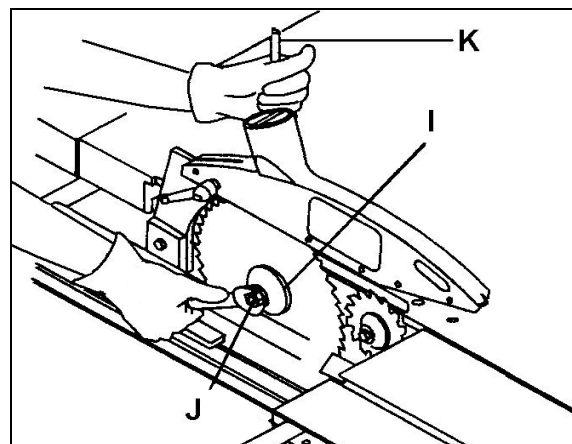

Fig 23
Loosen the arbor nut (J, Fig 23) while stopping the arbor against rotation with the locking pin (K).